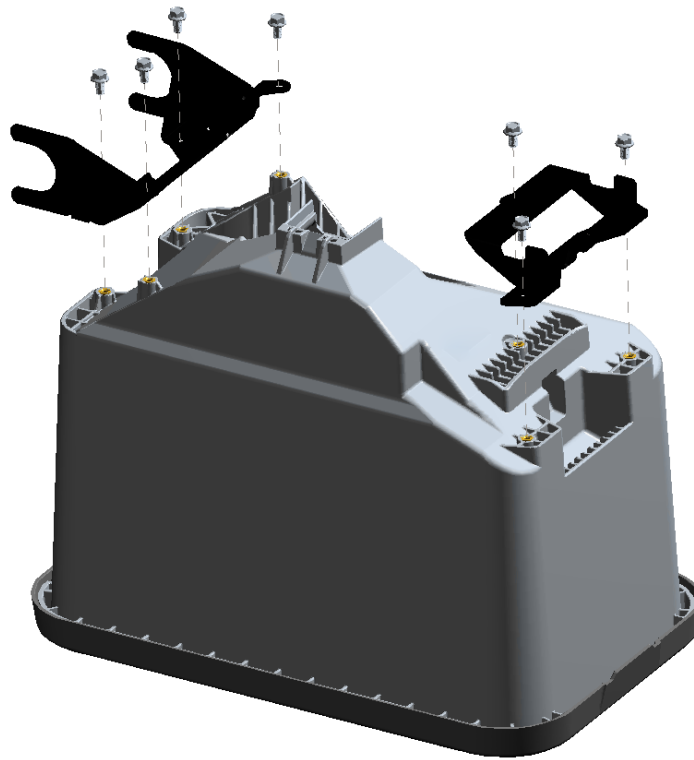

Figure 2 – Hopper Bracket Installation
- b) Install the front and rear brackets in their respective locations on the hopper using the provided M8-1.25" X 16MM flange bolts. Do not over tighten. Refer to figure 2.